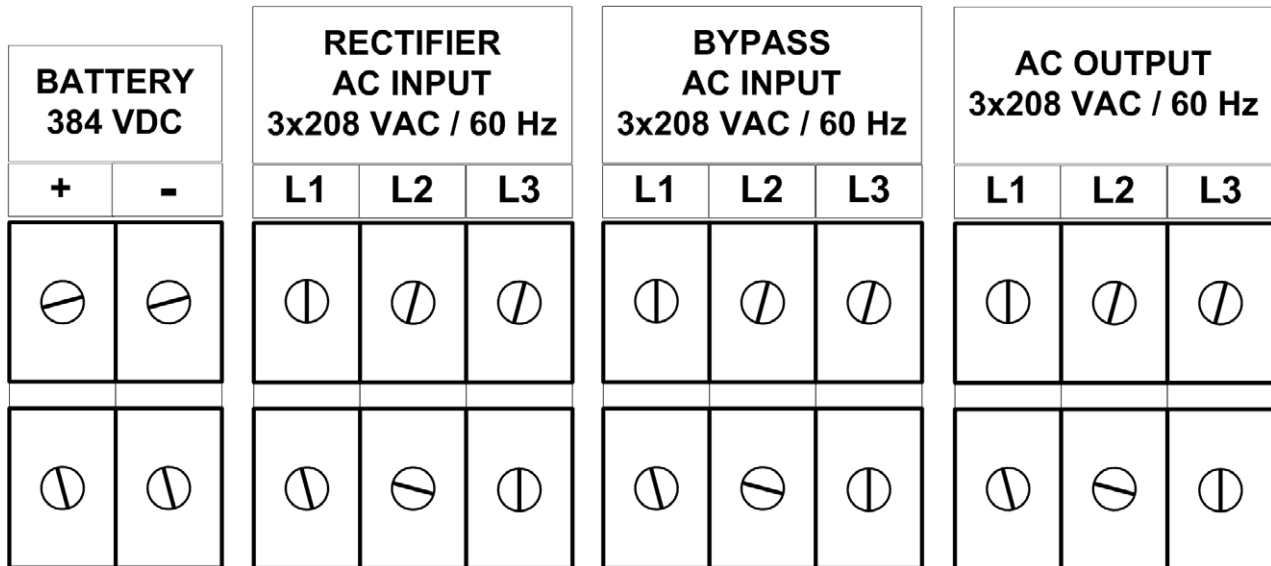

Figure 9: Main terminals on systems without the main. bypass switch
On systems without the maintenance bypass switch, the terminals are located as shown by item 3 in Figure 1 on page 3. A close-up of these terminals are shown in Figure 9 below